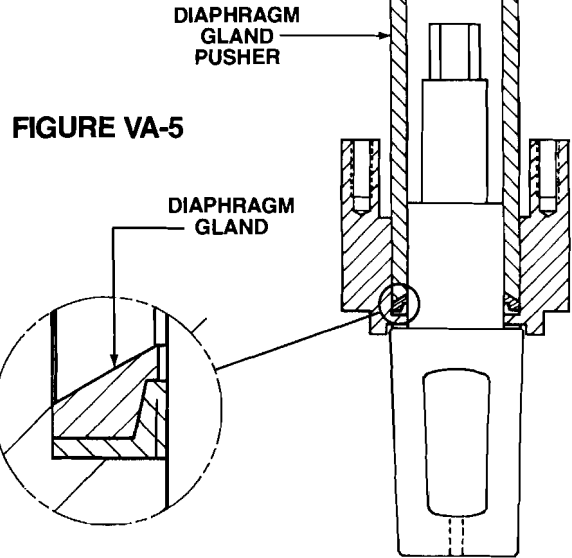

FIGURE VA-5
- Remove the diaphragm guide and pusher from the stem. Place the diaphragm gland over the plug stem. Now locate and seat the diaphragm gland by pushing downward with the diaphragm gland pusher. (An arbor press is required to load the pusher.) See Figure VA-5.